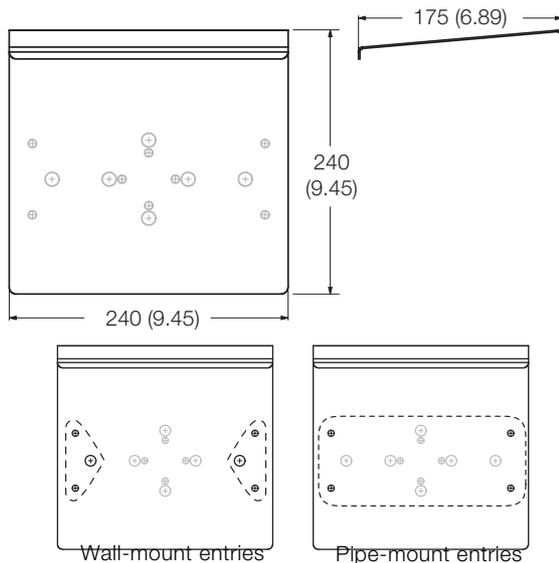

Fig. 13: Weathershield kit (pipe- and wall-mount installations)
- Weathershield kit CM40/0702 (see Fig. 13)